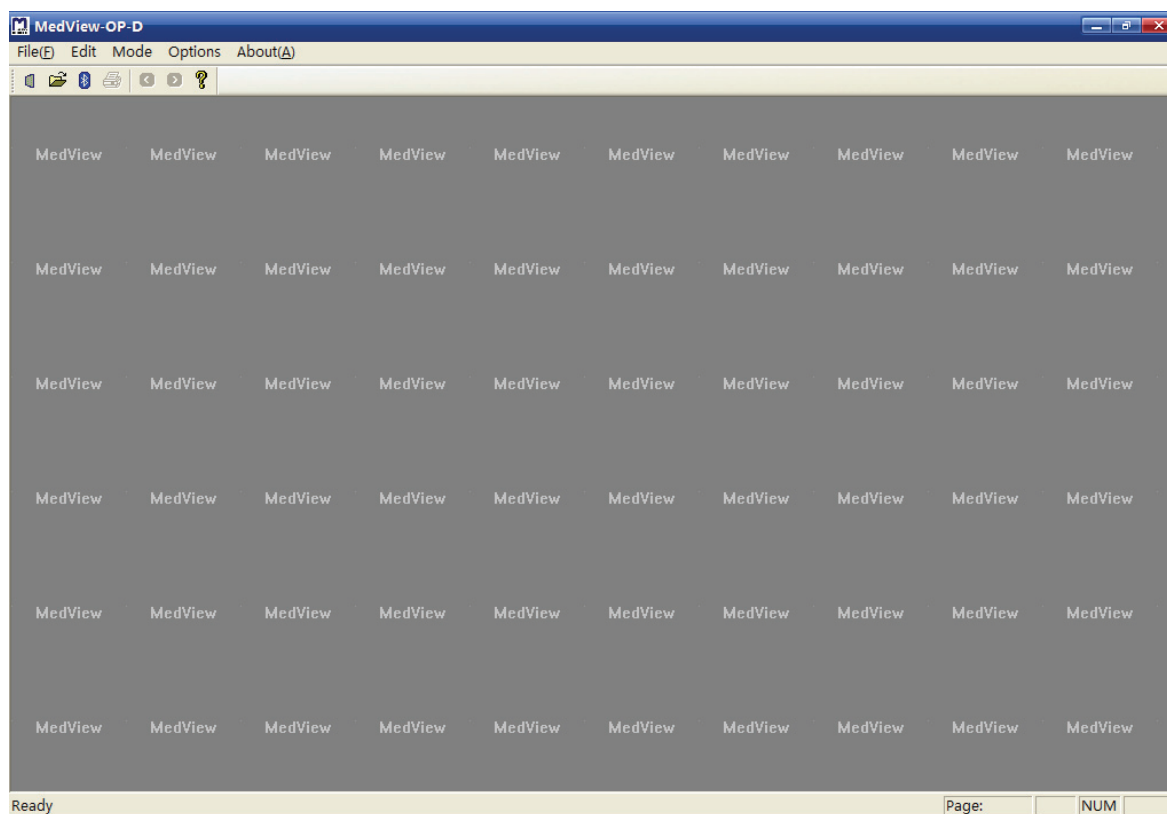

Figure.3-1
3.1.2 Double click the icon “MedView” on the desktop, the following screen will appear, as shown in Figure 3-1.